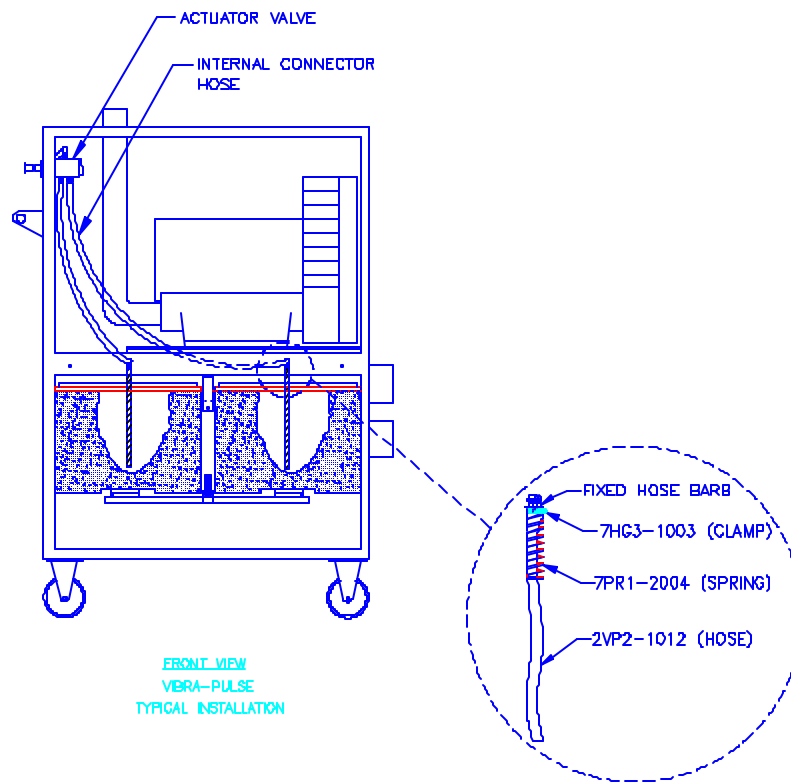

Figure 7.
- 1 fixed and 3 loose components (per filter), see Figure 7.